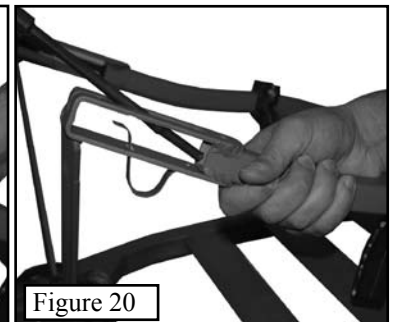

Figure 20
**Step 2.** Take one end of the cable around the tree and begin to slide it down into the tubing as shown in **Figure 20**. Once the cable slides easily into the tubing (it helps to bend the cable upward while pushing down on it), you are ready to place it in its final position.